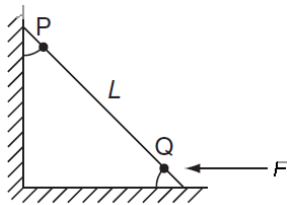

Figure 36 Question 48.
48. The rod PQ of length L and with flexural rigidity EI is hinged at both ends (Figure 36). For what minimum force F is it expected to buckle?